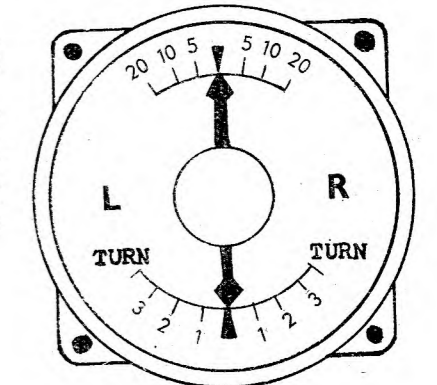

Fig. 3.—The Turn Indicator.
Fig. 3 shows the turning indicator, which represents a typical example of a gyroscopic instrument. It employs an air-driven rotor (A), which is mounted on ball-bearings in a horizontal gimbal ring (B). The axis of the